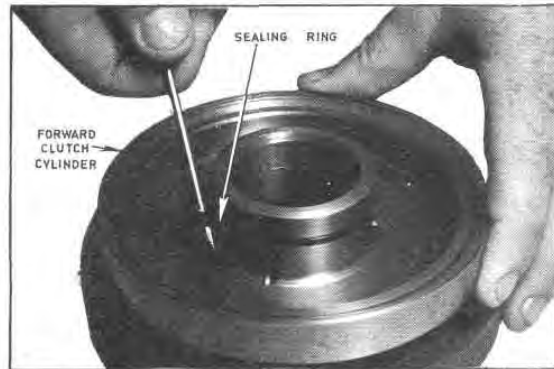

Fig G60 — Forward Clutch Cylinder Sealing Ring
18. Install a lubricated sealing ring in the groove provided in the inner hub of the forward clutch cylinder (Figure G60).